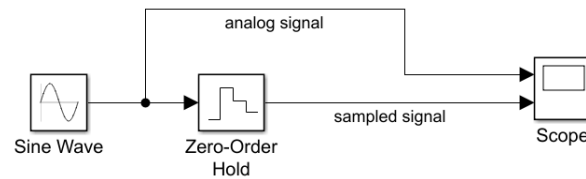
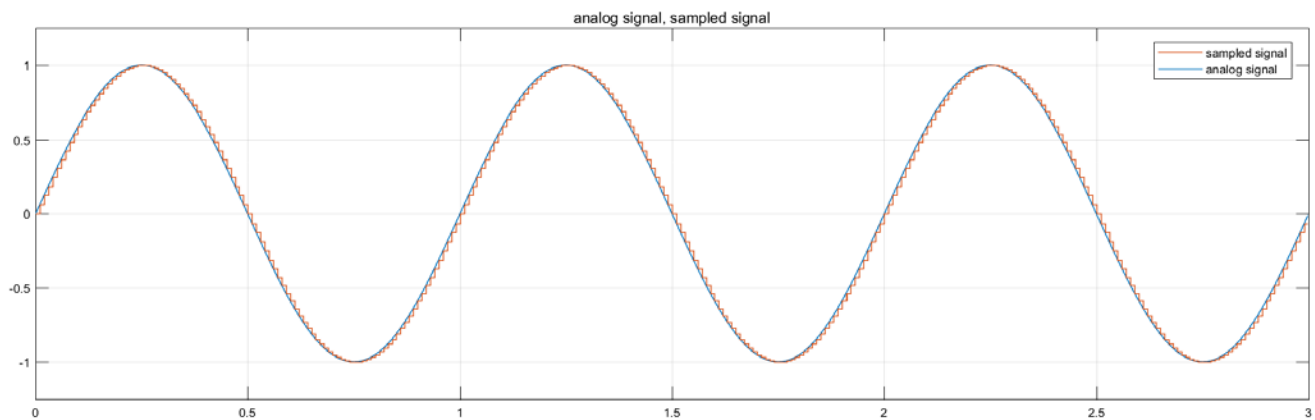

Figure 4: Simulink Diagram
Figure 5: Initial Scope Output
1. Build the Simulink diagram shown in Figure 4. Your initial scope should look like Figure 5.
Any results/figures from the Simulink Scope block that are used in your report **must** have a white background (e.g., Figure 5 above). Do **not** use a screenshot/image of the Scope output that has a black background. To copy the Scope output results to your lab report, go to the 'File' menu in the Scope block and select 'Copy to Clipboard'.